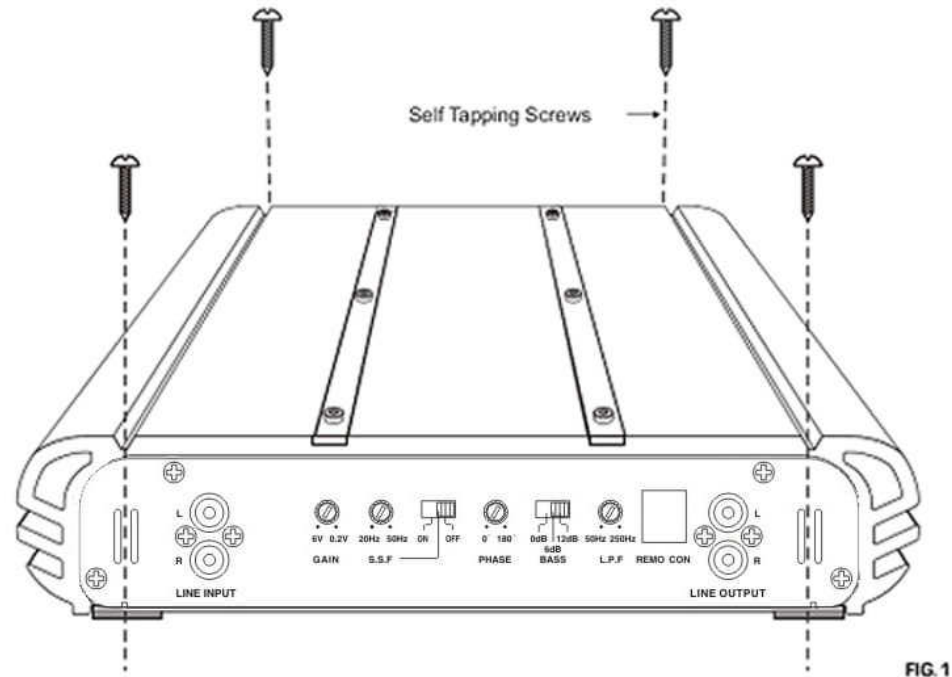

Fig. 1.
1. After reading precaution, decide where you are going to install the unit. Also, see Fig. 1.